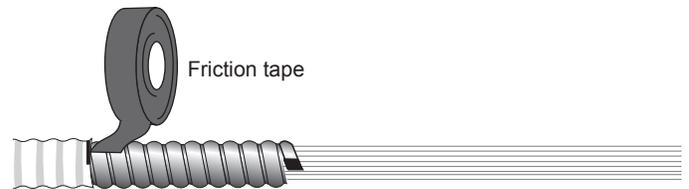

Figure 23
**5.14** Place a wrap of friction tape over the exposed armor and over the entire length of the exposed cable core (Figure 23).